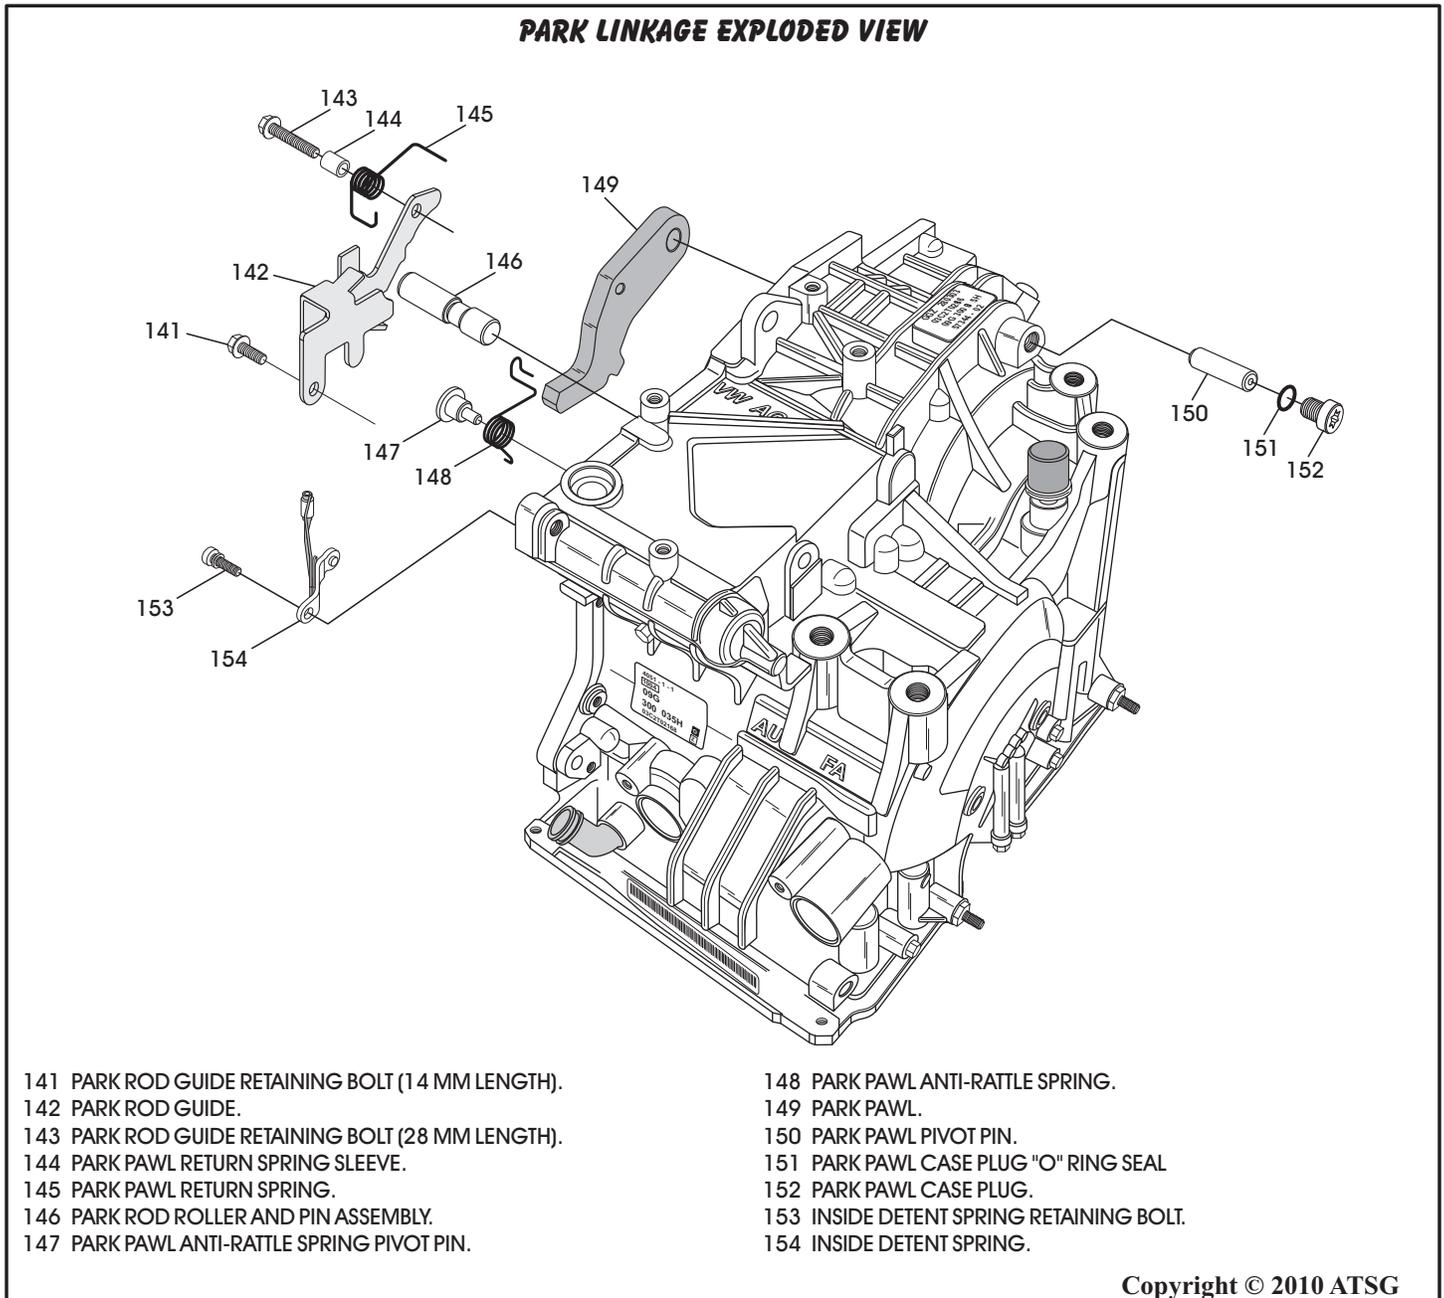

Figure 77
53. Remove the park pawl pivot pin case plug from rear of case, as shown in Figure 77.
54. Remove and discard case plug "O" ring seal, as shown in Figure 77.
55. Remove the park pawl pivot pin, using a small pocket magnet, through the case plug bore, as shown in Figure 77.